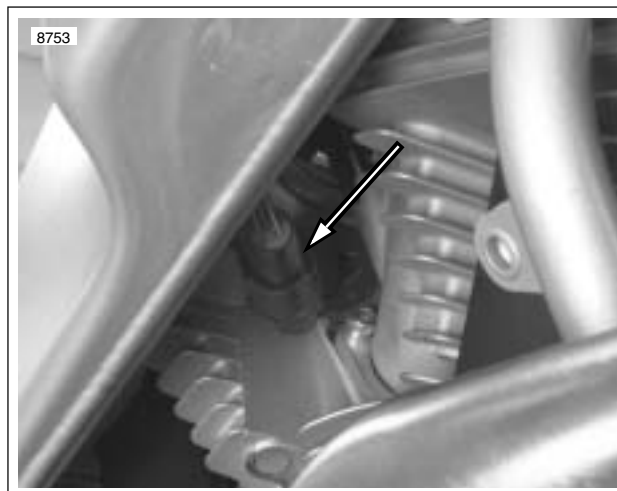

Figure 4-79. Throttle Position Sensor Location
2. See Figure 4-79. Disconnect throttle position sensor connector [88].